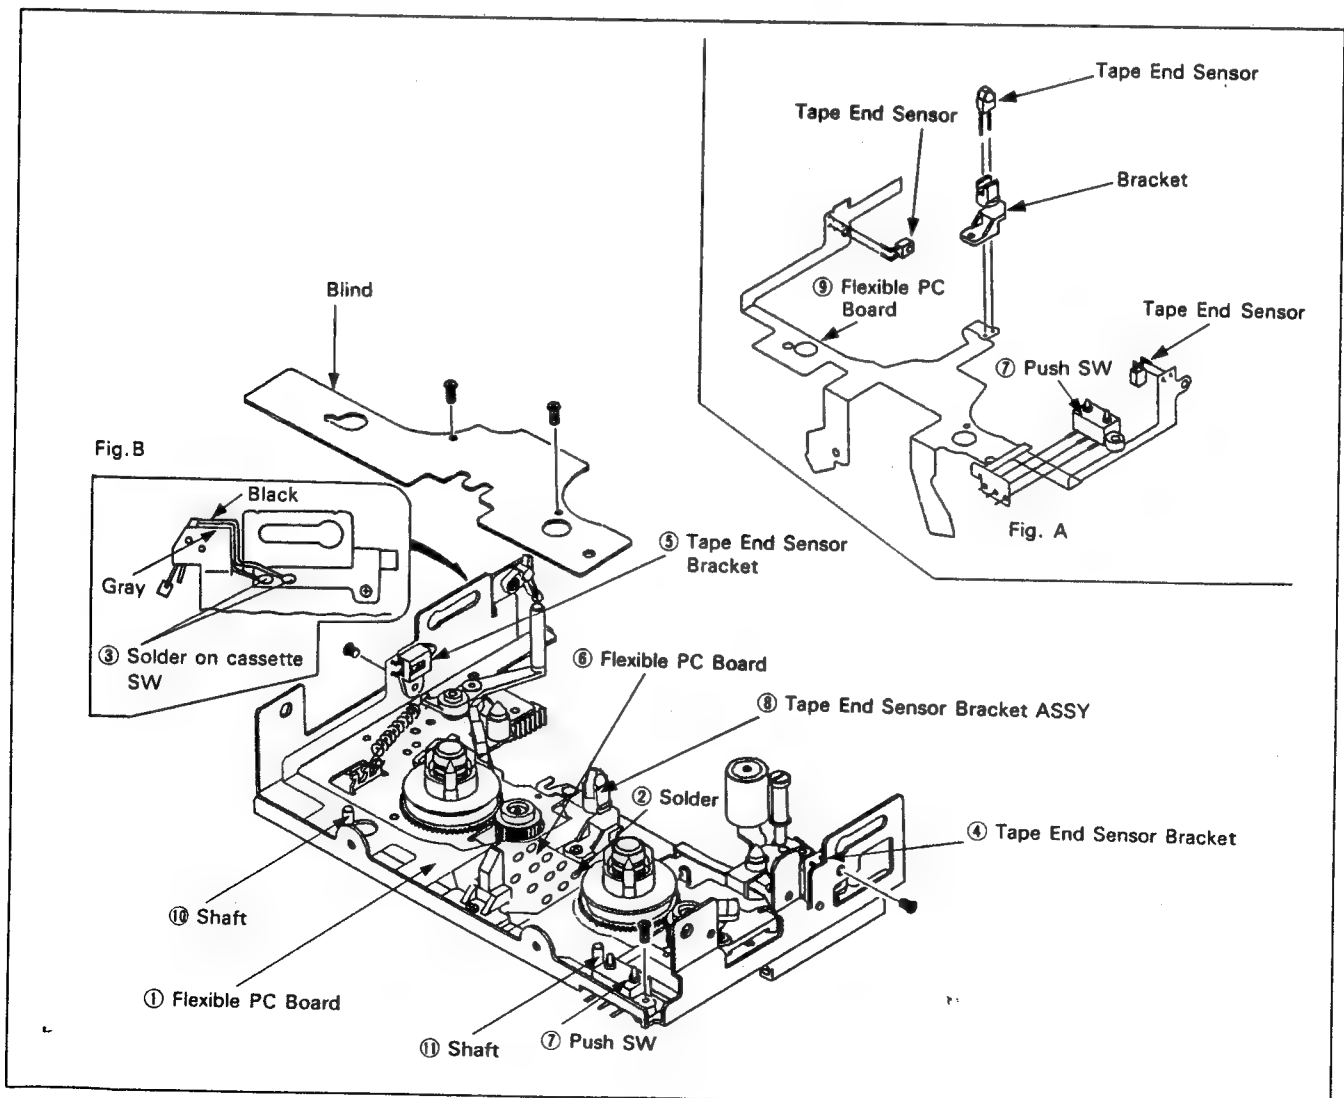

Fig. 2-20.
2-6-11. Flexible PC board (Reel chassis) (See Fig. 2-20)
- 5) Attach flexible PC board ① to the reel chassis as shown in Fig. 2-20. (See para 2-6-11.)